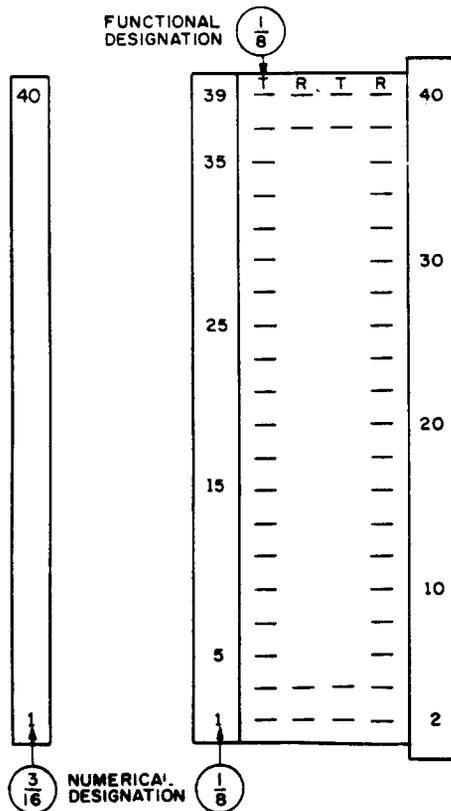

Fig. 7 — Terminal Strips — For Tie Cables and Cable Pairs Not Terminating Directly on Protectors
2.05 Terminal strips for tie cables and cable pairs not terminating directly on protectors shall be stamped as shown in Fig. 7.
2.06 Terminal strips for toll intermediate distributing frame tie cables shall be stamped with the tie cable number (when assigned) as shown in Fig. 7.